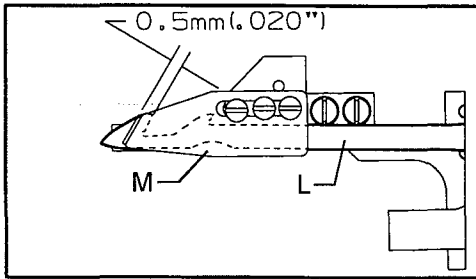

Fig 3
Upper knife (M) should overlap lower knife (L) by: 0.5mm(.020").(Fig3)